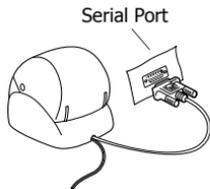

Figure 8
- 3 When prompted during the software installation and while the printer is turned on, plug the serial connector into the serial (COM) port on your computer. See Figure 8.